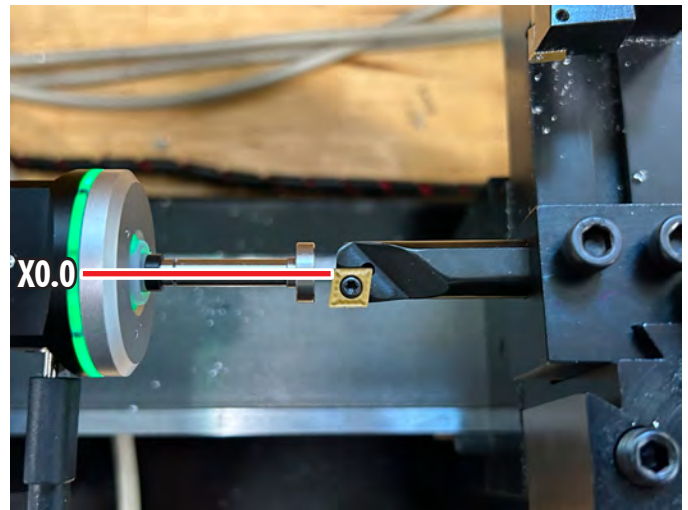

FIGURE 8
**NOTE:** Our actual X Stylus Size was .392. When we entered the stylus diameter of .392, the tools went past the part centerline (X0.0) when commanded in MDI (see Figure 8)